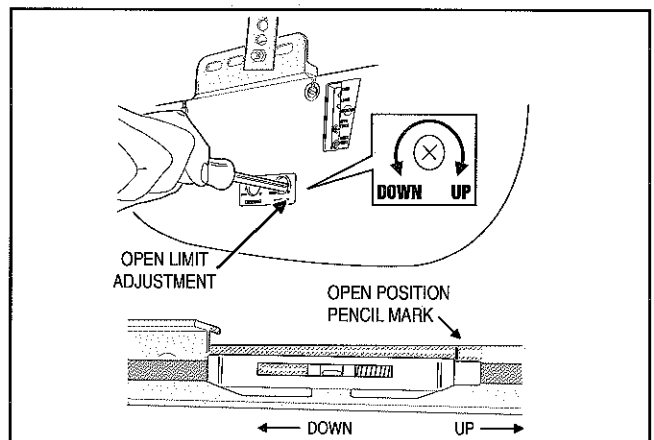

Figure 3A Adjusting the open limit
- D** Adjust the open limit (**Figure 3A**).